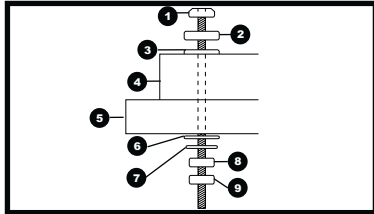

Fig 9
1) For stationary use, place the saw in the desired location, directly on a workbench where there is room for handling and proper support of the workpiece. The base of the saw has four mounting holes. Bolt the base of the mitre saw (1) to the work surface (5), using the fastening method as shown in Fig 9.